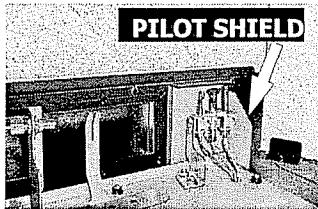

FIGURE 10C
9. **MODEL #936 DV:** Remove the pilot shield and set aside. See figure 10C, page 15.
MODEL #936 DV: Replace the pilot shield, figure 10C.